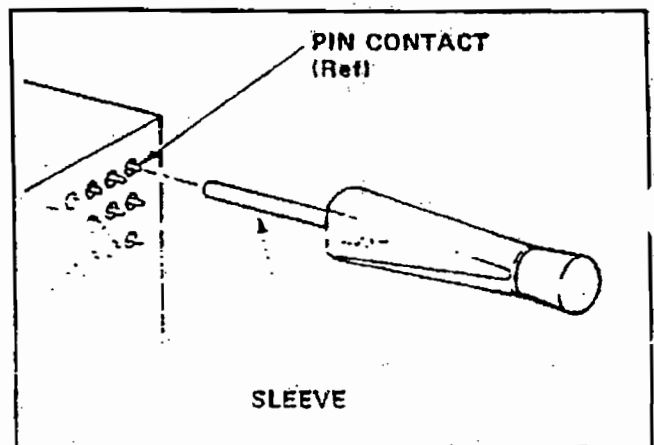

Fig. 2
1. Align the sleeve of the tool with the contact to be removed (see Figure 2).